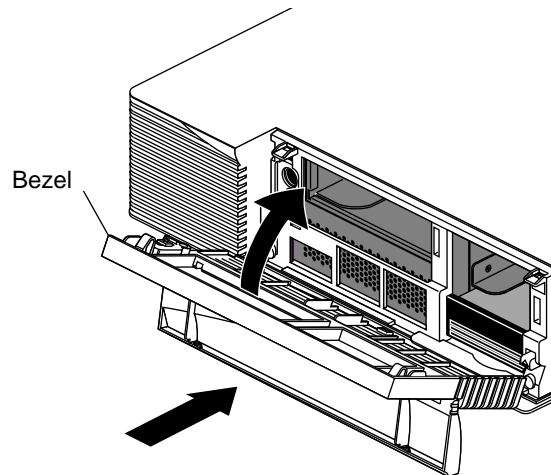

Figure 5-70 Replacing the Bezel
- Place the tabs on the bottom of the bezel into the grooves in the front of the chassis, as shown in Figure 5-70.